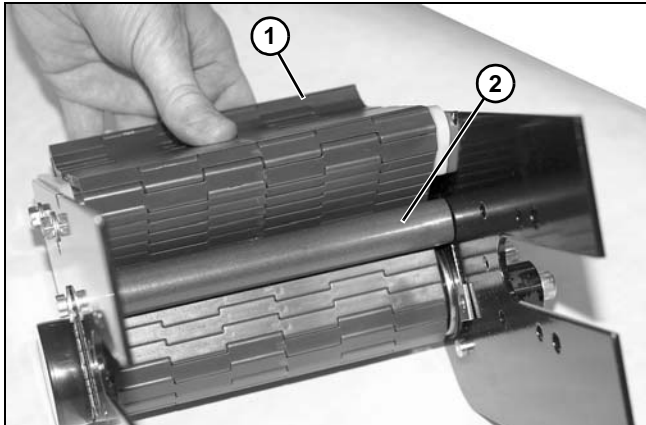

Figure 138
6. Continue routing belt (**Figure 138, item 1**) around tensioning rod (**Figure 138, item 2**).